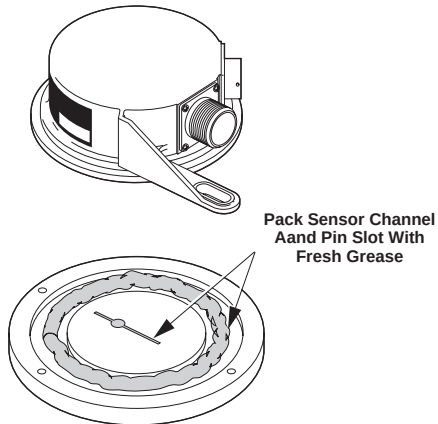

Figure 11-4. Pack Sensor Channel with Fresh Grease
6. Pack the base plate reservoir and pin cavity with fresh grease (Figure 11-4).